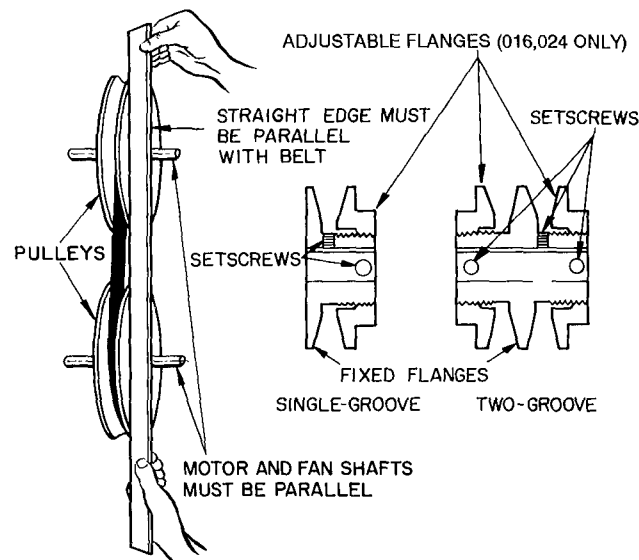

Fig. 28 — Evaporator-Fan Pulley Adjustment and Alignment (50BJ,BK016-034 shown)
3. Loosen movable pulley flange setscrew (016,024). See Fig. 28.
4. Slide pulley along fan shaft and align with straightedge as shown in Fig. 28.